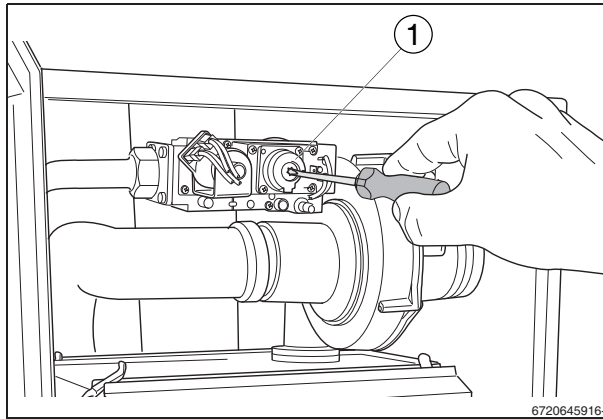

Fig. 65 Adjusting gas/air ratio at minimum load
- If necessary: adjust the CO₂ Percentage to the calculated value, by means of the air/gas ratio adjustment screw (fig. 65, [1]). The adjustment screw is located behind the screw plug.